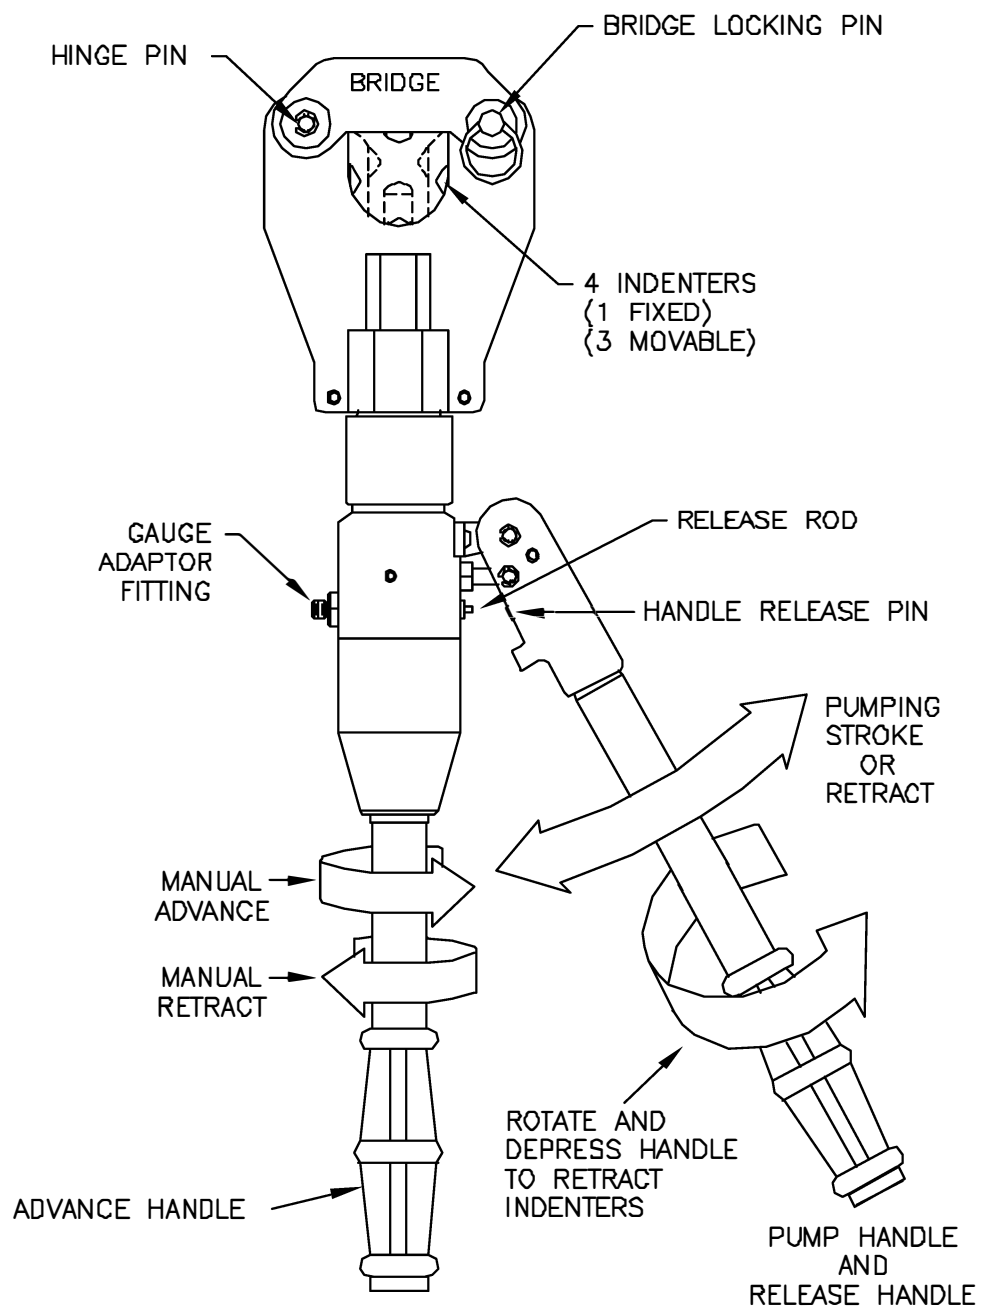
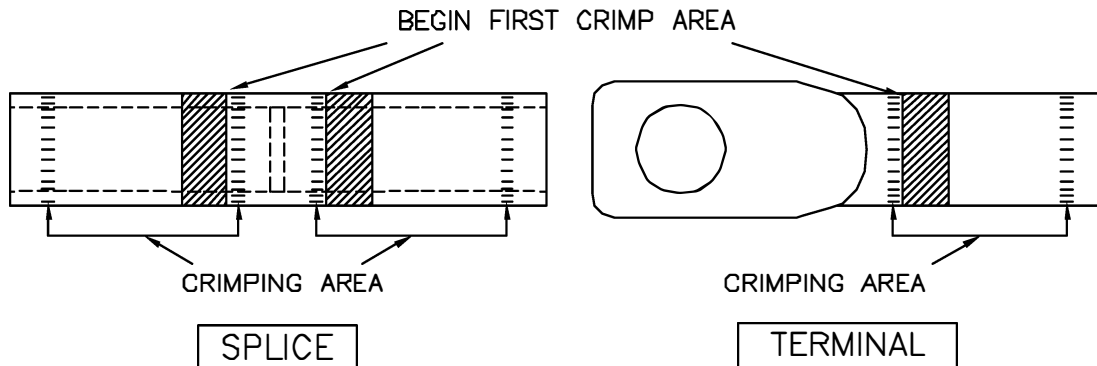

FIGURE 1
FIGURE 2
2. Place a sleeve in the indenter opening and rotate the advance handle clockwise (see Figure 1) until the indenters loosely clamp the sleeve or terminal. Position the sleeve or terminal so that the indenters will make the first crimp at the edge of the scored crimp line marked on the barrel (see Figure 2). Rotate each successive crimp 45°. NOTE: The number of crimps will vary with each size sleeve or terminal.
5. Release the indenters from the compressed sleeve by partially raising the pump handle. Then rotate the handle fully clockwise and push inward (see Figure 1). The indenters will open sufficiently to allow the sleeve to be repositioned for the next crimping operation.
6. Rotate bridge locking pin clockwise and pull pin to open upper bridge (see Figure 1) and remove the crimped splice. Close bridge and rotate lock pin counterclockwise to lock the bridge in position.
TOOL HEAD DISASSEMBLY: (SEE FIGURE 1)